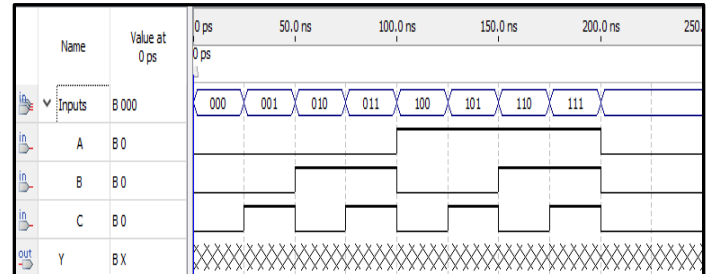

Figure 12: Grouping on vwf
- Click on the arrow next to Inputs to expand your group. You should see something similar to Figure 12.